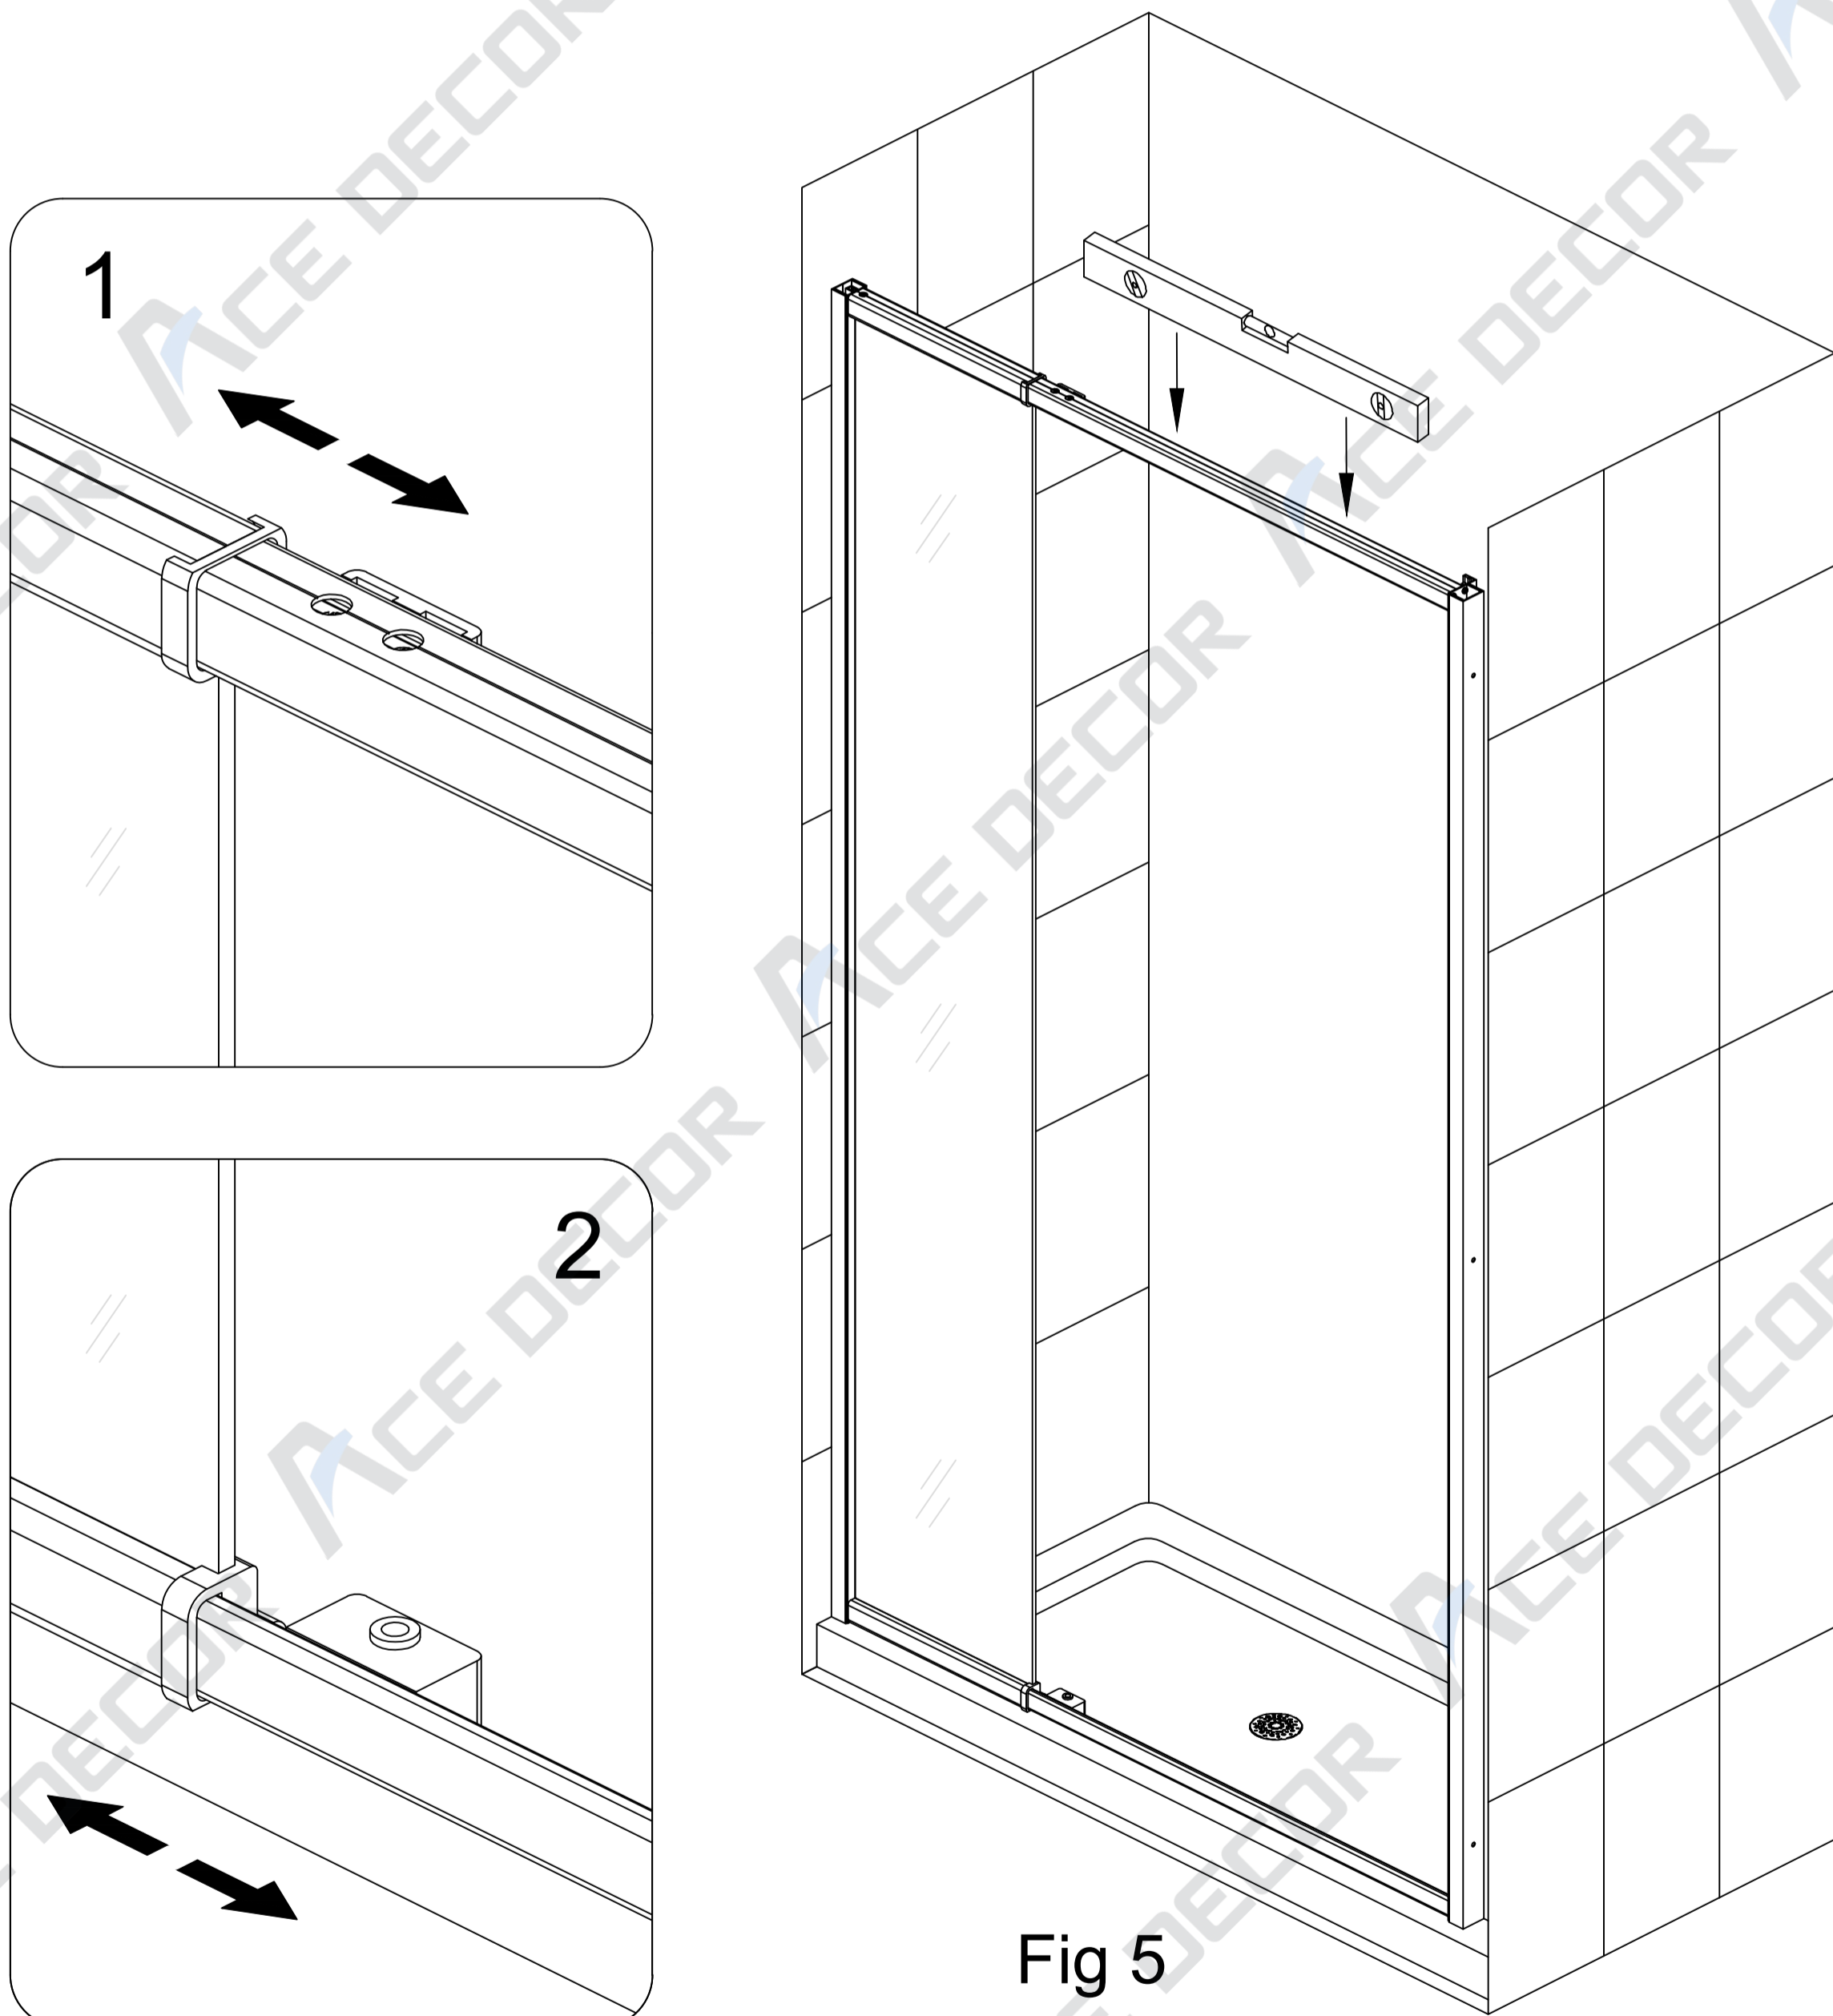

Fig 5
Place the assembly onto the threshold at the desired location and extend the expandable **Top & Bottom Rails (A)** evenly. (Fig 5)